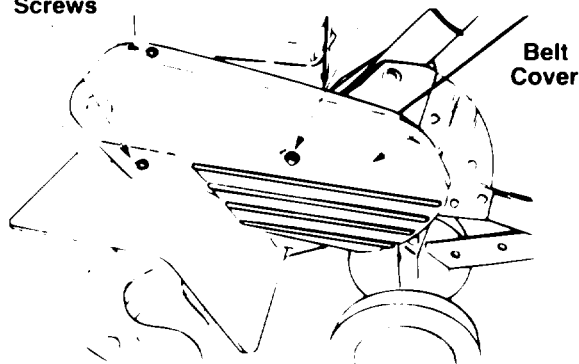

Figure 18
2. Remove two self-tapping screws and flat washers from the front of belt cover. (See Figure 18.)